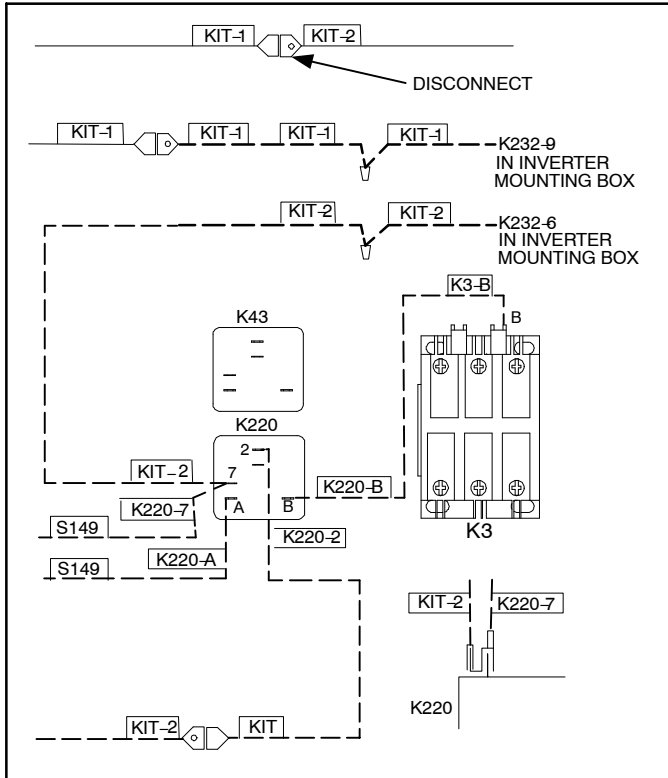

Figure 9. Installing both Float Switch with VFD Kits
- 7.2. Make wiring connections according to figure 9 using harnesses provided in kits
- 7.2.3. Connect wire from VFD kit marked **KIT-2** to float switch kit harness wire marked **K220-7** receptacle / tab combination that was just connected to the relay in step 7.2.2. (see figure 9 detail).
- 7.2.5. Make all other wiring connections as illustrated in figure 9 and per wire markings. Also see provided unit wiring diagram.